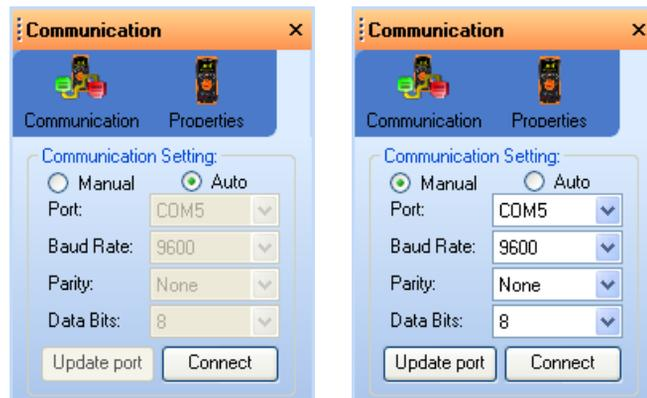

Figure 5 Communication panel
- i Select **Auto** (Figure 5) to allow the Agilent GUI Data Logger to automatically search for a connected multimeter.
- ii Select **Manual** (Figure 5) to manually update the Agilent GUI Data Logger's communication settings.
Match the Baud Rate, Parity, and Data Bits settings (Figure 5) to the settings of the connected multimeter.